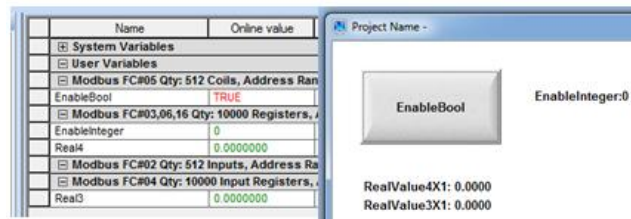

FIGURE 8: THE VARIABLE VALUES ARE EQUIVALENT WHEN OUTPUTBOOL IS FALSE.
- Figures 8 and 9 demonstrate that InduSoft is addressed correctly, because the HMI mirrors the values shown in MotionWorks IEC.